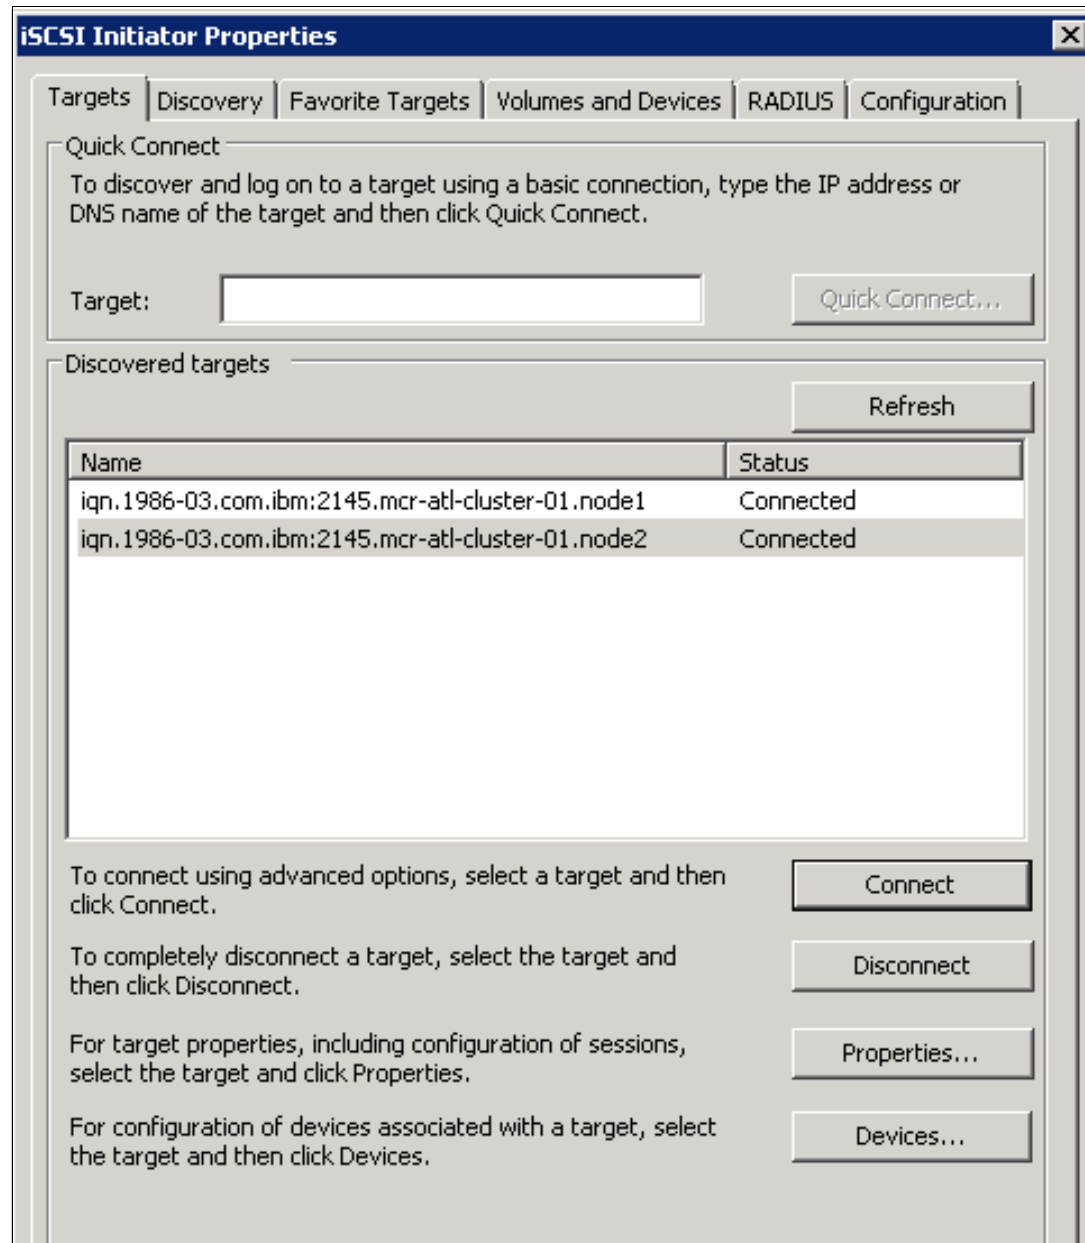

Figure 5-55 Second target port connected
8. Select **Enable Multipath** and click **OK**. The second port is now Connected, as shown in Figure 5-55.